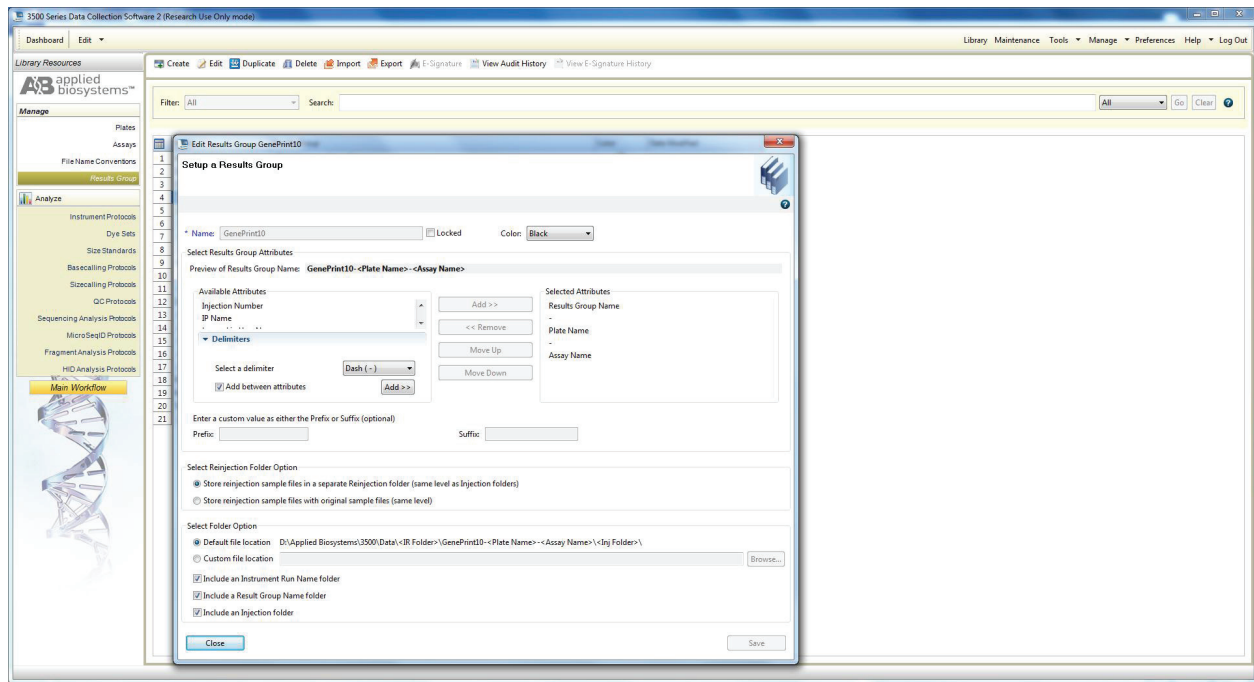

Figure 11. The Setup a Results Group window
- To create a new Results Group, navigate to the Library. Select “Results Group”, then select “Create” (Figure 11). Select Results Group Attributes according to laboratory practices. Save with a descriptive name, and select “Close”.